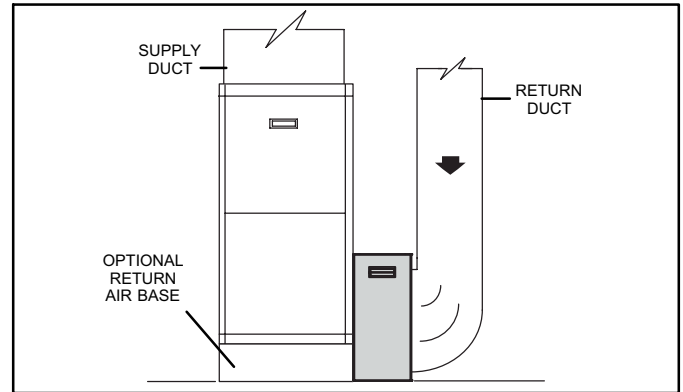

Figure 9. Up-flow Furnace (5 ton, Option 1)
Option 1—Install Return air base, part numbers 98M60, 98M58. SlimLine™ HCC20-28 Cabinet is installed vertically and return air enters the furnace side inlet (see figure 9).
2. Align the cabinet opening with the opening on the furnace. (For 5 ton application, use option 1 or 2 [figure 9 or 10]).